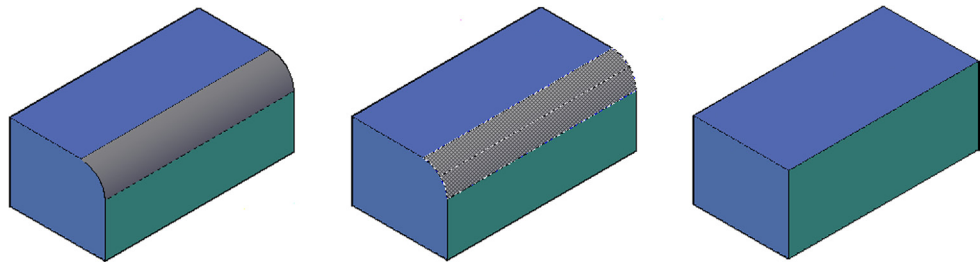

FIGURE 25.16
Step 5. The delete faces command can also be used to delete unwanted fillets in 3D. Simply run the command, select the fillet, and it reverts to a “0” radius (sharp corner), as seen in the sequence of Figure 25.16.